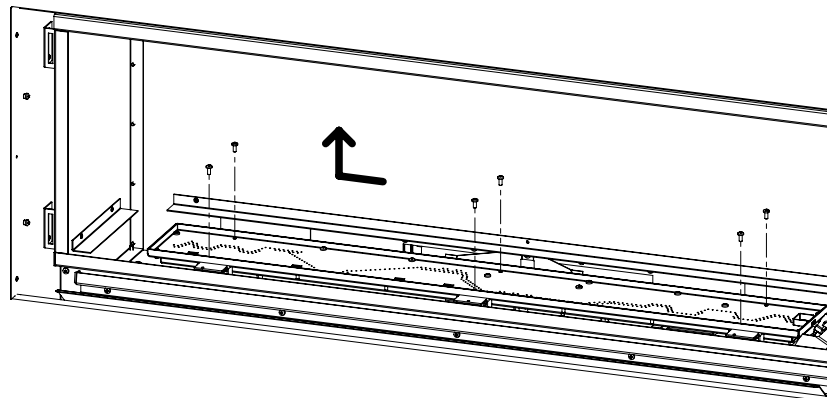

Figure 9: Removing Burner
6. Remove the six T-20 screws securing the burner pan as shown in Figure 9; do **NOT** remove the other T-20 screws. Once the specified screws are removed slide burner to the left and lift out to remove.